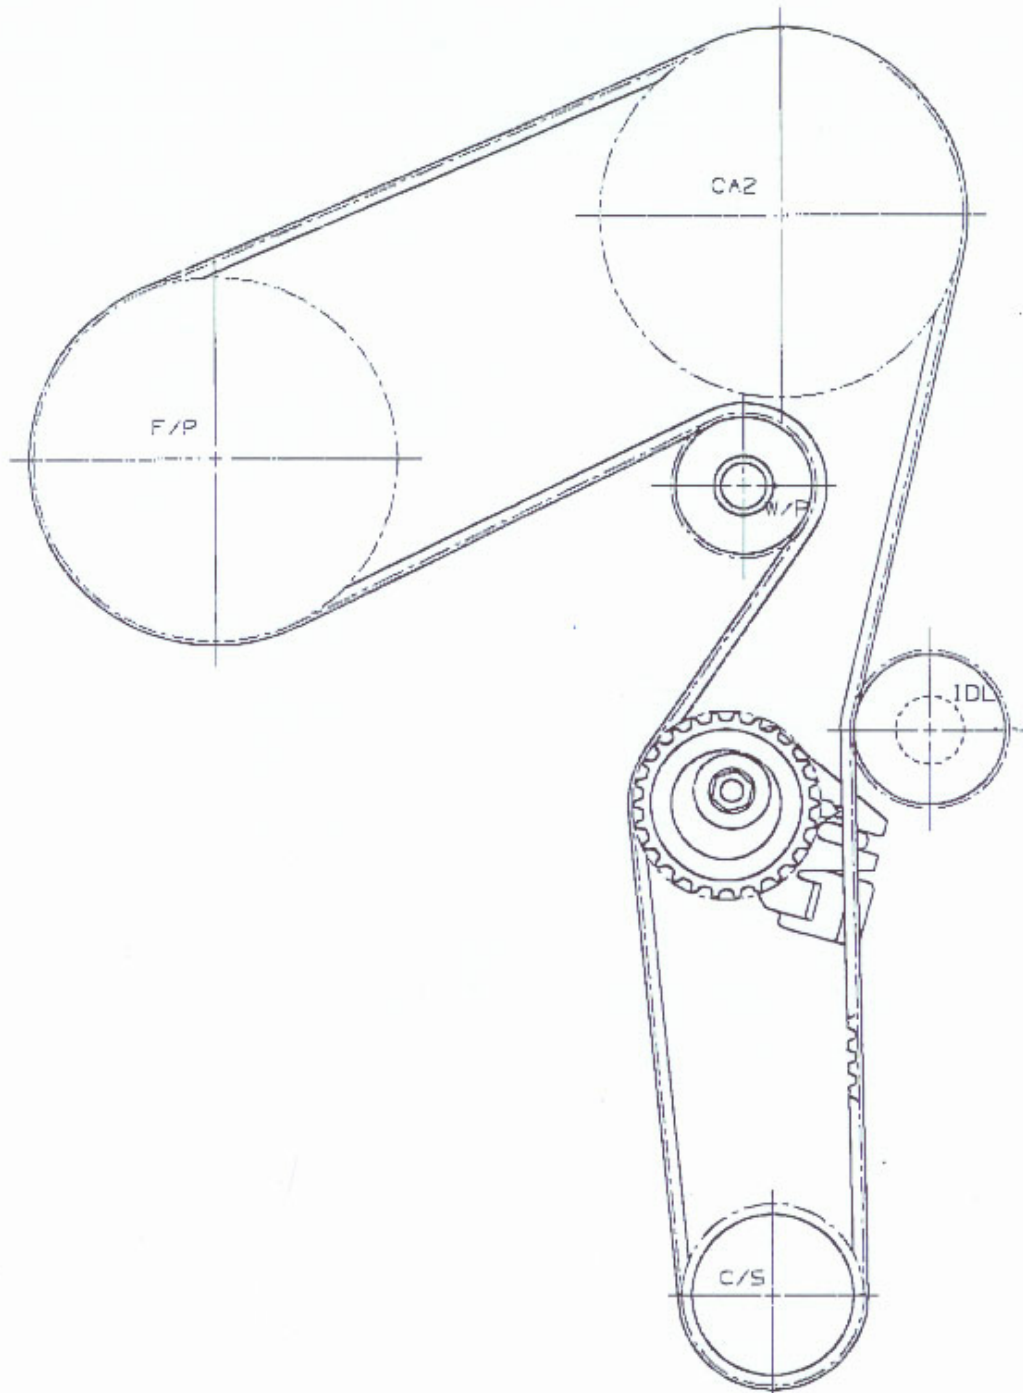

Figure 2a: Belt layout for 979235 (FIAT 2.4L DOHC, 5 Cyl.)
5. Install the timing belt being careful to engage the appropriate teeth of all the corresponding sprockets as per drive layout (See Figure 2a + 2b).